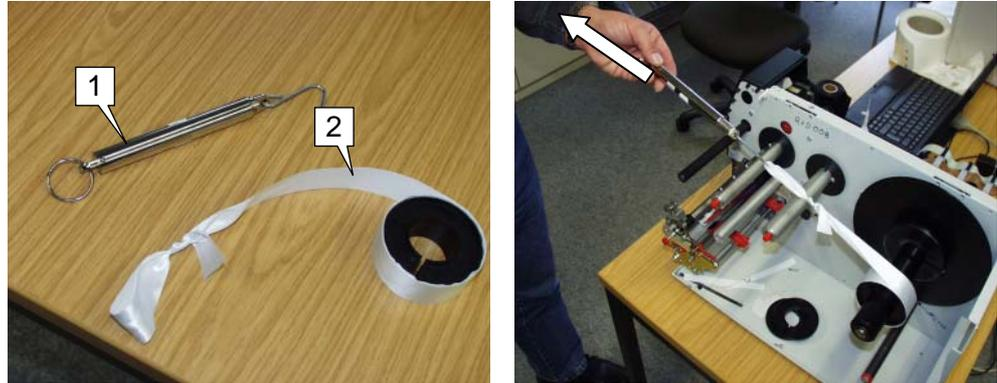

Fig. 1 Left side: Aid for adjusting the brake torque: Reel with textile ribbon (2) and spring balance (1). Right side: Measuring the pulling force.
3. Slowly unwind the textile ribbon by pulling it. Read the pulling force at the spring balance, while you are pulling (see Fig. 1 right side).